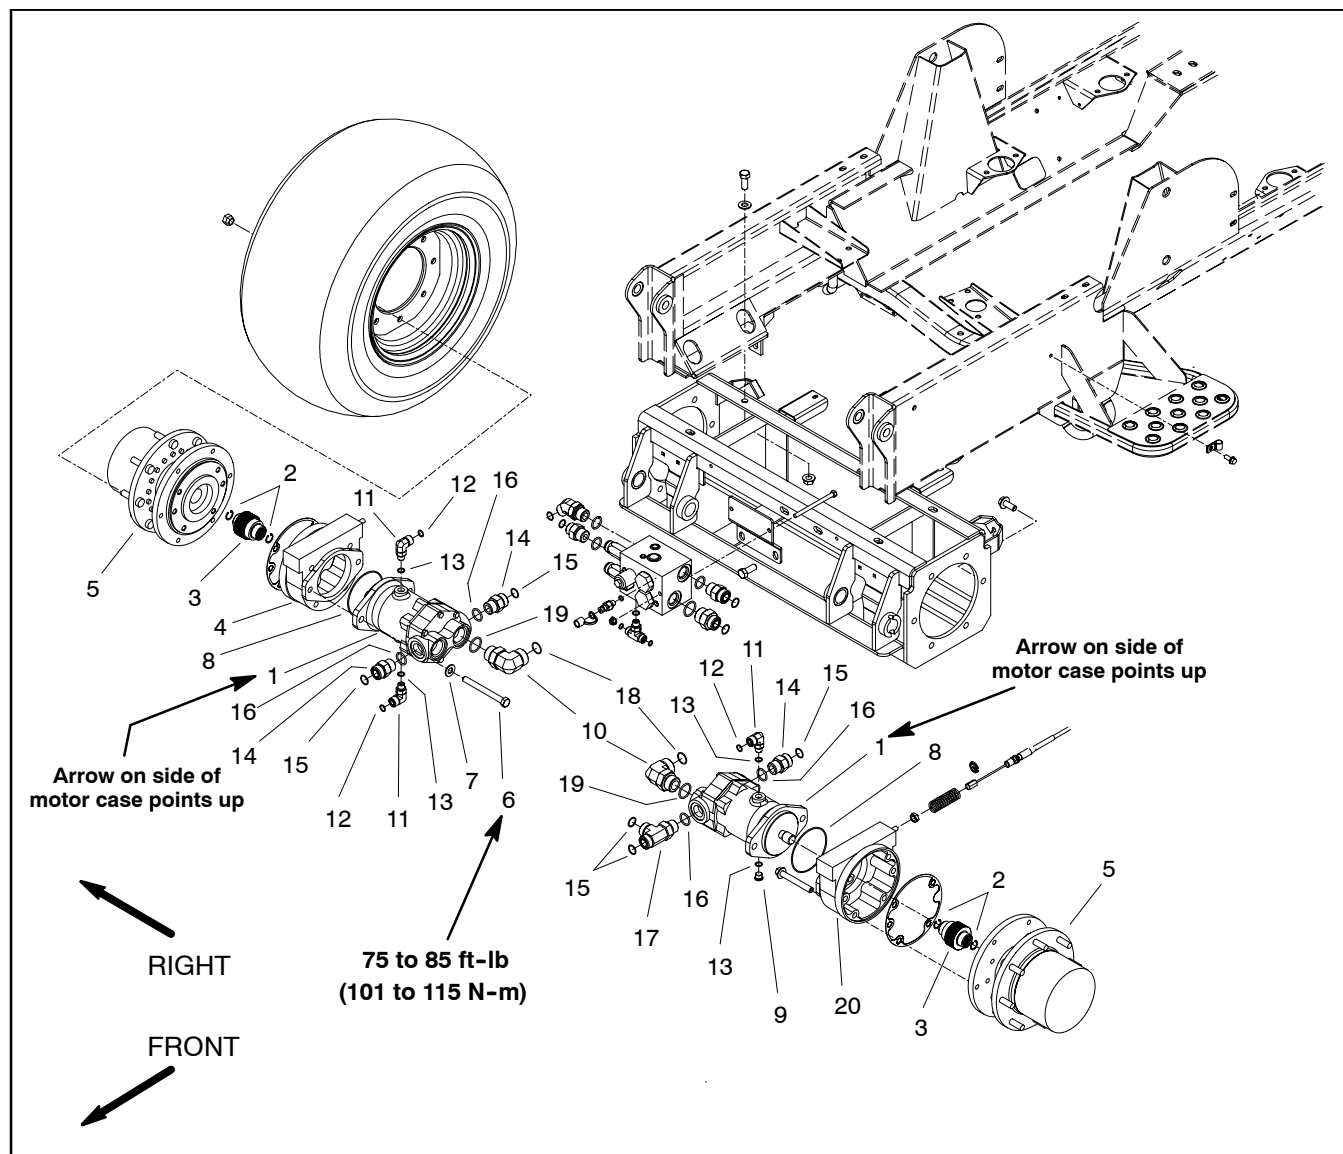

Figure 63
5. Remove wheel motor using Figure 63 as a guide.